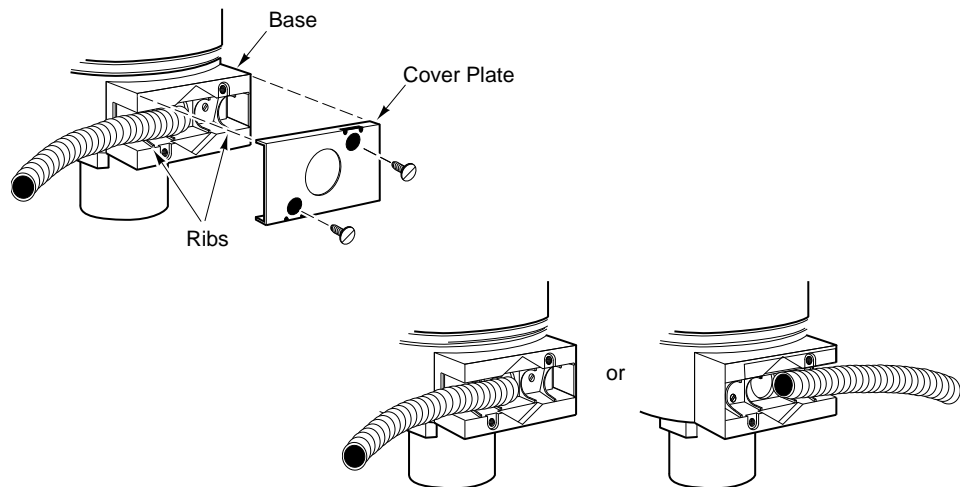
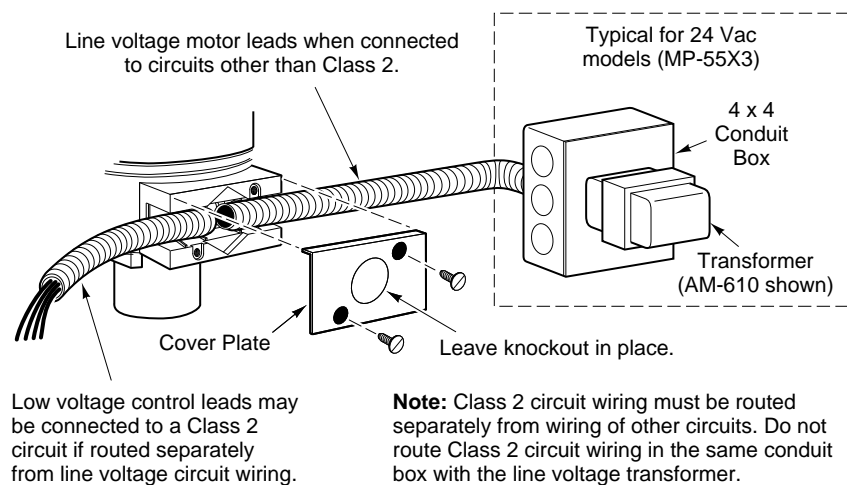

Figure-6 Flexible Conduit Installation to Either Side of Actuator.
Figure-7 MP-5500 Series Wiring with Separation for Class 2 and Line Voltage Circuits.
The control leads may be connected to a Class 2 circuit if routed separately from Class 1 circuit wiring. Refer to Figure-7.
The low voltage (24 Vac) power leads may be connected to a Class 2 circuit if routed separately from Class 1 circuit wiring. Refer to Figure-7. Line voltage power leads must be connected to a Class 1 circuit.
Flexible conduit may be installed onto one or both sides of the actuator (refer to Figure-6 and Figure-7). Install each conduit as follows:
4. Slip the conduit onto the base, over the ribs. Refer to Figure-6 and Figure-7.